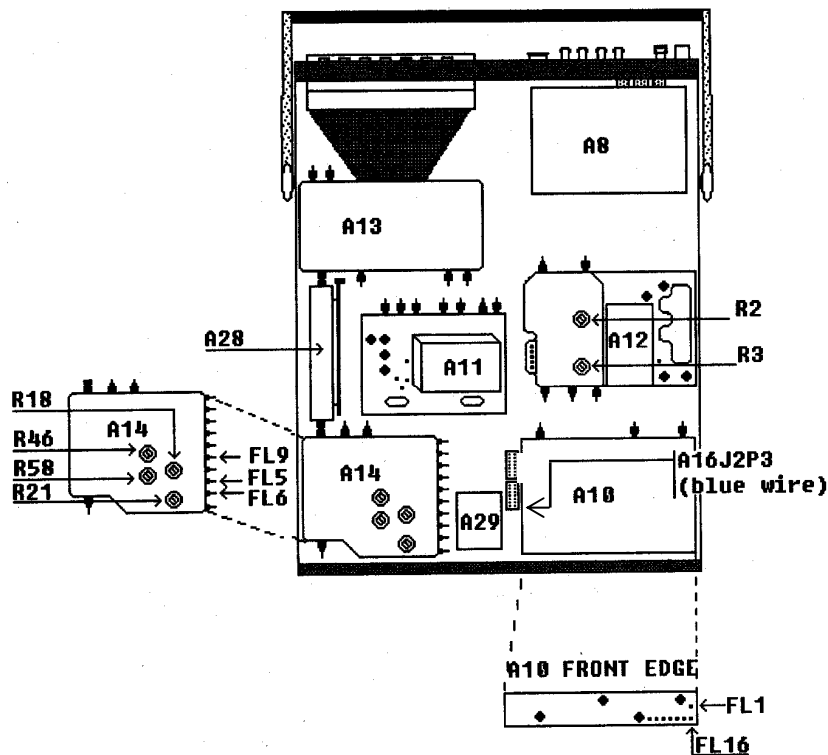

Figure 5. Test instrument - bottom view.
A12R2 and A12R3 (fig. 5) are interactive and adjustment will be extremely sensitive.
- (32) Alternately adjust A12R2 and A12R3 (fig. 5) on receiver IF module for minimum amplitude of the 1st LO signal -50 dBm maximum (R).
(2) Press **MODE RF GEN** (MODE RF GEN display), **Level (F3)** (Level display), **DATA ENTRY ± 1 2 7** and **ENTER** keys (-127 dB).
(3) Press key sequence listed in (a) through (f) below:
(4) Stand TI on end and locate power term, A14 (fig. 5) in lower left hand corner.
(5) Press **MODE MTRS** (Meters Menu) key and **DATA ENTRY 3** key (Pwr Meter (Pulse/CW)).
(6) Press **Range (F1)** and **DATA SCROLL** arrow keys to select **2 W** range, then press **DATA ENTRY ENTER** key.
(7) Connect a 50 Ω load to TI **T/R**.
(8) Connect multimeter to A14FL9 (fig. 5) RF power level output, and set multimeter to measure V dc.
(9) Adjust A14R21 (fig. 5) for a multimeter indication of 20 mV dc ±2 mV (R).
(10) Press **Range (F1)** key, press **DATA SCROLL** arrow keys to select **200 W** range. Press **DATA ENTRY ENTER** key.
(11) Adjust A14R18 (fig. 5) for a multimeter indication of 10 mV dc ± 2 mV (R).
(12) Press **Range (F1)** and **DATA SCROLL** arrow keys to select **2 W** range, and press **DATA ENTRY ENTER** key.
(13) Remove the 50 Ω load from TI **T/R**.
(14) Connect measuring receiver sensor module to RF power amplifier **OUTPUT** using 10 dB attenuator (fixed).
(15) Adjust signal generator frequency to 85 MHz and output to 10mV. Adjust RF power amplifier gain to minimum then adjust gain and signal generator output until measuring receiver indicates exactly 33 dB (2 W) minus 10 dB attenuator (fixed) insertion loss.